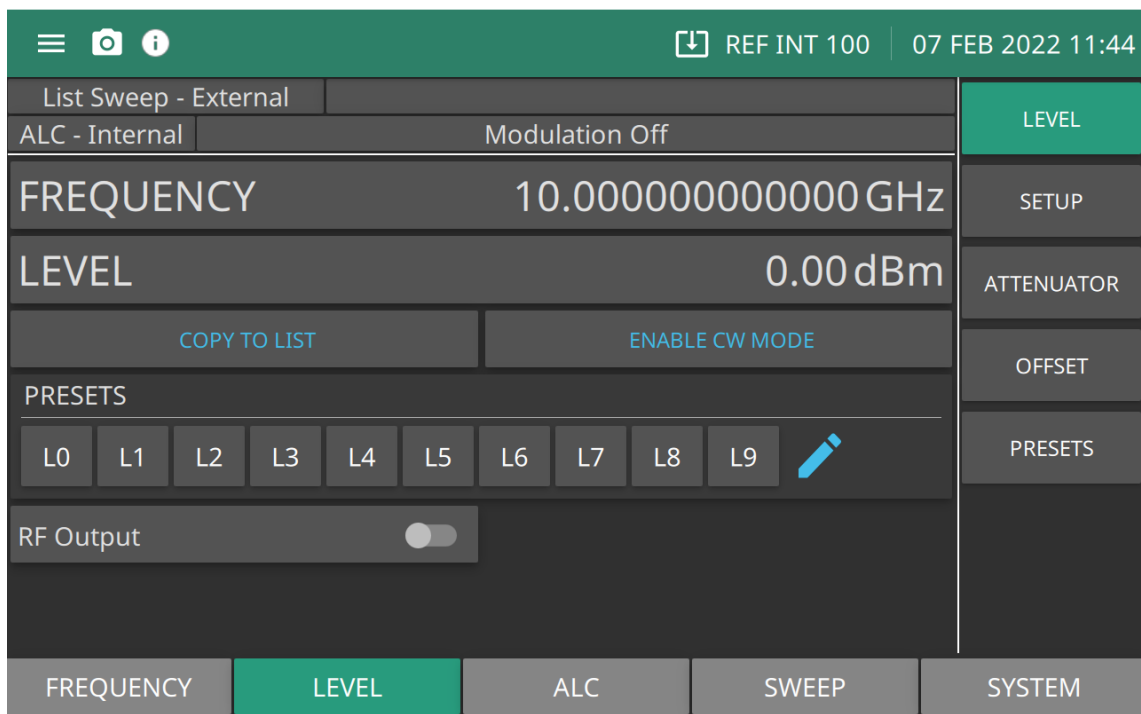

Figure 3-33. LEVEL Menu
- a. Press LEVEL. The Level menu is displayed as shown in Figure 3-33.